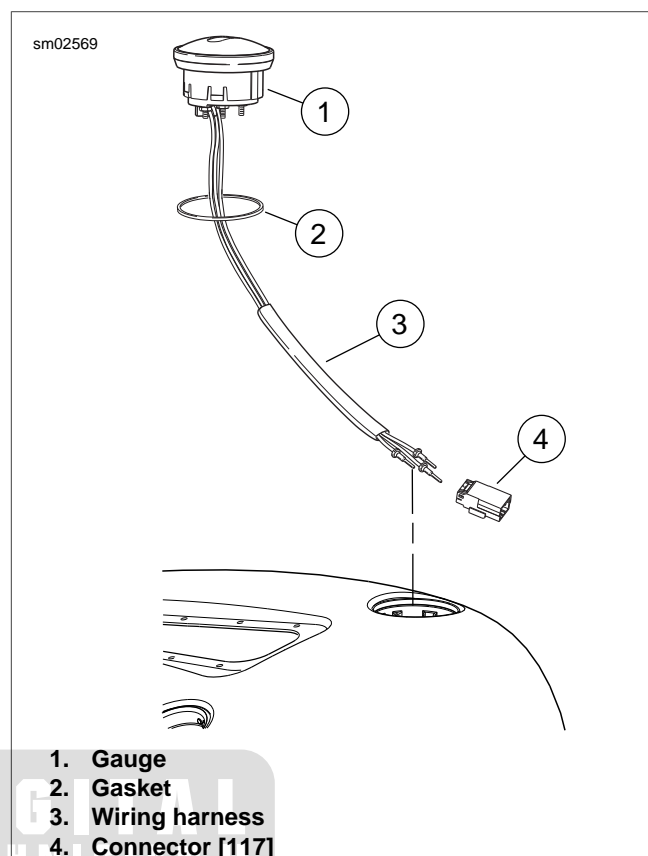

Figure 7-44. Fuel Gauge: All but FXD
5. See Figure 7-44. Pull up on gauge (1). Remove gauge, gasket (2) and wiring from fuel tank. Discard gasket.
1. See Figure 7-44. Install wiring harness (3) through **new** gasket (2).
3. While gently pulling on wiring harness, install gauge (1) and gasket by carefully moving gauge back and forth while pushing down at the same time.
4. Install wiring into connector (4) [117]. Mate connector halves.